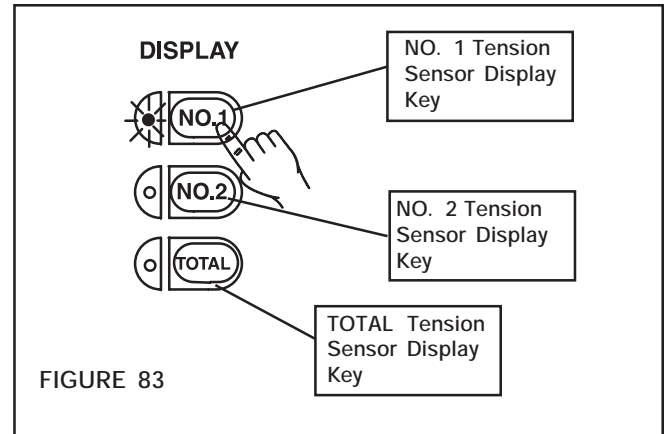

FIGURE 83
1. Press the **NO. 1 Tension Sensor Display Key** (See Figure 83) to display the tension measured at the NO. 1 Tension Sensor. The NO. 1 Indicator will light.